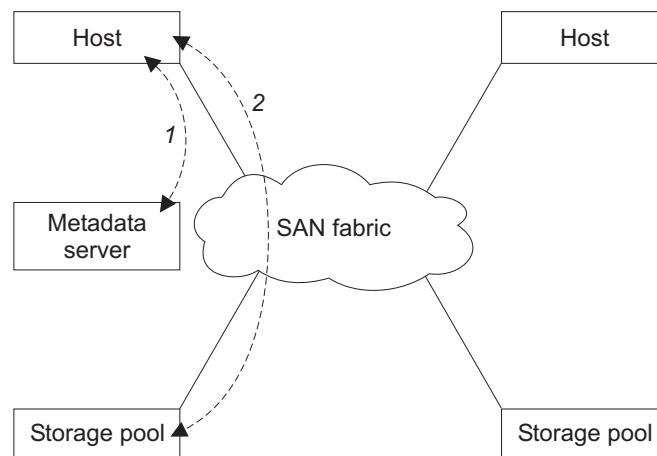

Figure 2. Asymmetrical virtualization
In asymmetric virtual storage networks, the data flow, (2) in the Figure 2, is separated from the control flow, (1). A separate network or SAN link is used for control purposes. The metadata server contains all the mapping and locking tables while the storage devices contain only data. Because the flow of control is separated from the flow of data, I/O operations can use the full bandwidth of the SAN. A separate network or SAN link is used for control purposes. However, there are disadvantages to asymmetric virtualization.